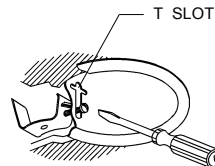

FIG. 9
4. Align the T slot with a fasteners. (Fig. 9)
5. To secure, tighten a screw through the fasteners opening. (Fig. 9)
Note-3: Make sure that the mounting frame opening, is clear before cutting. (Fig.9)
2. Cut an opening in the ceiling using the mounting frame as a template. (Fig.9)
1. Cut a hole in the tile using the mounting frame as a template. (Fig.9)